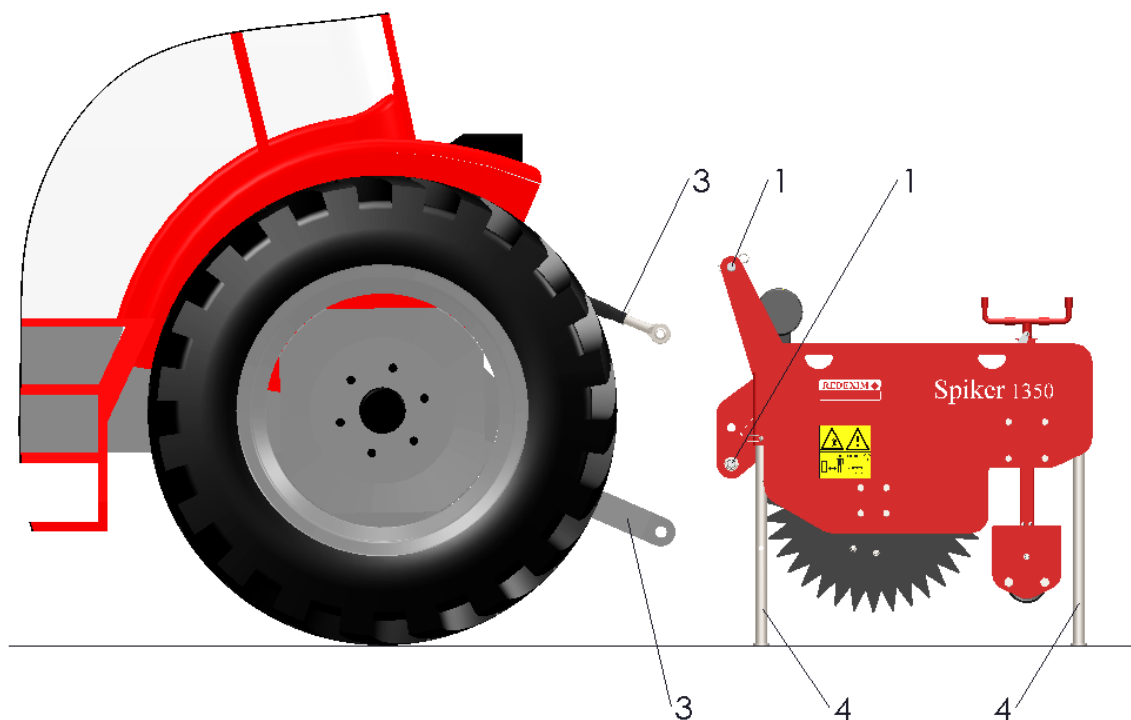

Figure 2
1. Remove the 3-point pins **(1)** from the machine (see **Figure 2**).
The machine should be detached in the following manner (see **Figure 2**):
Make sure the top rod is attached and set tight! See chapter 6 figure 2.